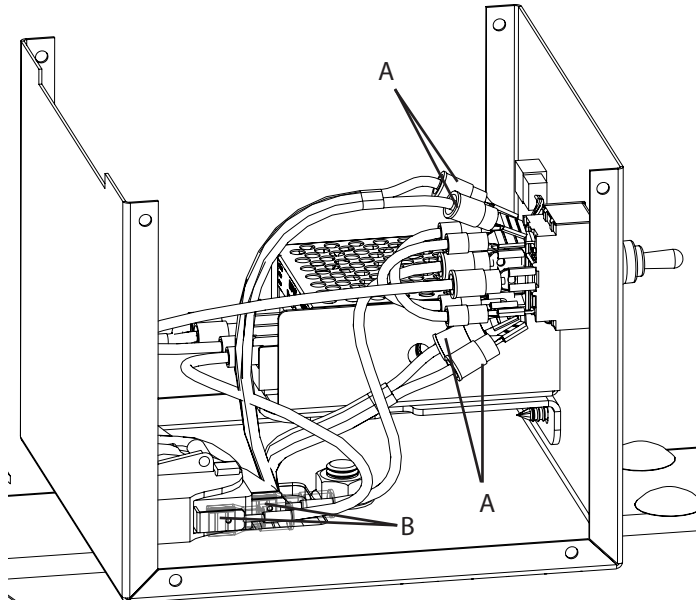

Figure 4: Disconnecting the motors and foot switch.
- Disconnect the motor harness (A) from the switch terminals. (Figure 4)
- Disconnect the wiring (B) from the foot switch terminals. (Figure 4)